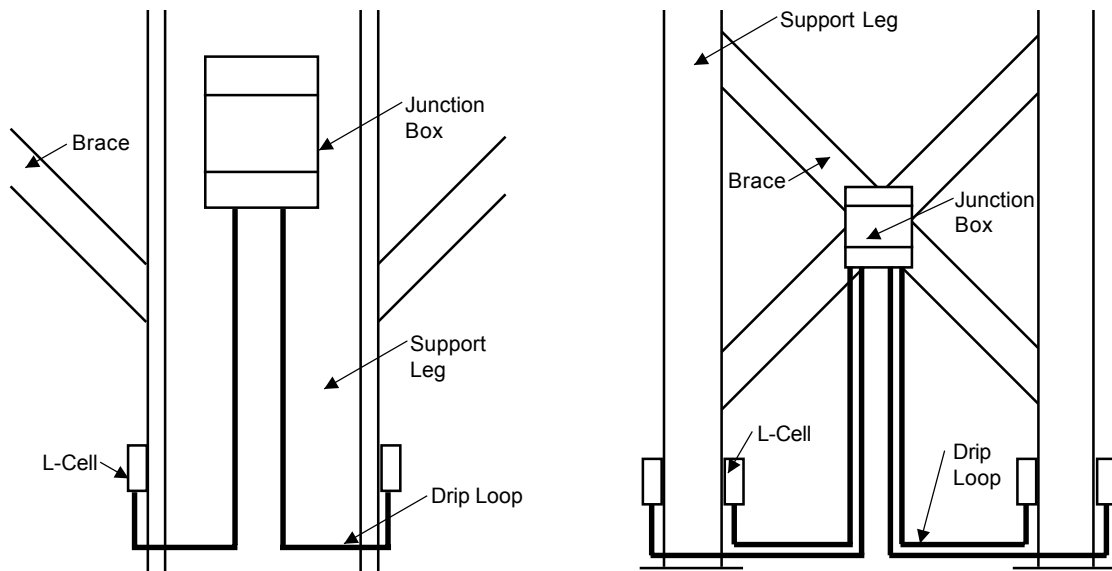
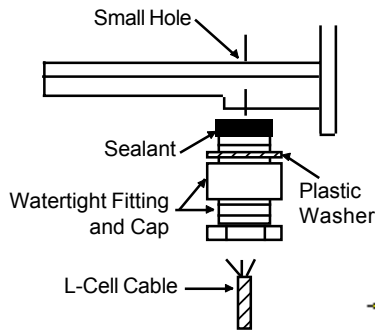

Figure 3-15. Possible Junction Box Mounting Locations
Figure 3-16. Inserting L-Cell Cable through Watertight Fitting and Cap
See Figure 3-15. Locate the junction box on the support leg web or on a brace. Vertically, locate junction boxes at a convenient height, approximately 4' (1.2m) from the ground. The exact location of the junction box is not critical, but ensure you have sufficient cable length and that a drip loop will be formed by the L-Cell cables when wired to the junction box.
2. See Figure 3-16. Place a plastic washer on a watertight fitting. Thread the L-Cell cable through a cap and watertight fitting. Leave an adequate length of cable between the L-Cell and fitting to provide a drip loop (see Figure 3-15).